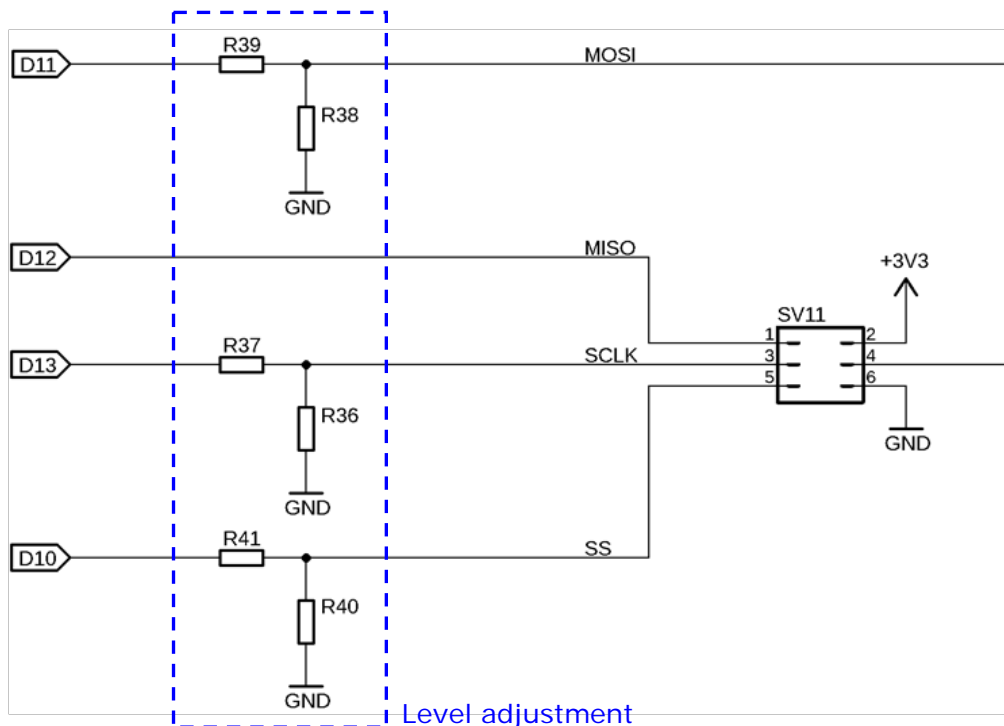
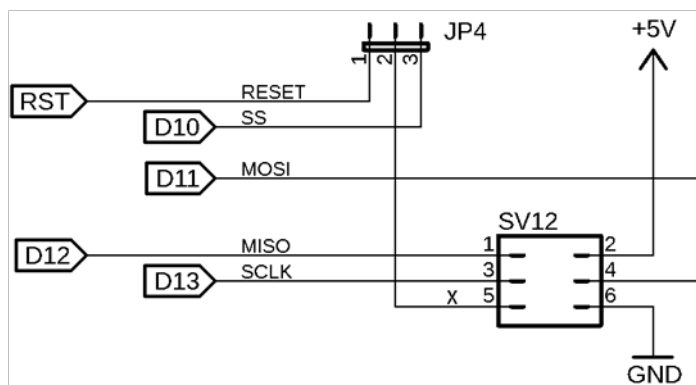

Figure 16: Pin assignment of SPI connector SV11
Figure 17: Pin assignment of SPI connector SV12
If a jumper shorts pins 2 and 3 of header JP4 (see Figure 17 above), both SPI interfaces SV11 and SV12 use the same output pin D10 of the microcontroller as SS (Slave Select) line, as Figure 16 and Figure 17 show! Therefore, **only one of the two connectors SV11 or SV12 may be connected to an SPI module at the same time**, because the simultaneous use of the same SS line for different devices would lead to transmission errors and short circuits on the SPI lines!
The connector SV11 (arrow (13) in Figure 1) enables the user to establish a serial SPI connection (SPI = Serial Peripheral Interface) between the MCCAB Training Board and an external SPI module with +3.3 V operating voltage, because the levels of the SPI output signals SS, MOSI and SCLK at interface SV11 are reduced to 3.3 V by voltage dividers. A 3.3 V level on the SPI input line MISO is recognized as HIGH signal by the AVR microcontroller ATmega328P and therefore does not have to be raised to 5 V level. The wiring of SV11 is shown in Figure 16.
Interface SV12 (arrow (12) in Figure 1) enables the user to establish a serial SPI connection between the MCCAB Training Board and an external SPI slave with +5 V operating voltage, because the signals SS, MOSI, MISO and SCLK of interface SV12 operate with 5 V signal levels. The wiring of SV12 is shown in Figure 17.
Depending on the desired application, the connection X at pin 5 of SV12 (Figure 17) can be assigned with different signals:
If the pins 2 and 3 of pin header JP4 (see Figure 17 above and arrow (11) in Figure 1) are shorted by a jumper, the GPIO D10 (signal SS) of the microcontroller is connected to pin 5 of the connector SV12. SV12 is used then as a normal SPI interface with the SS (Slave Select) GPIO D10.